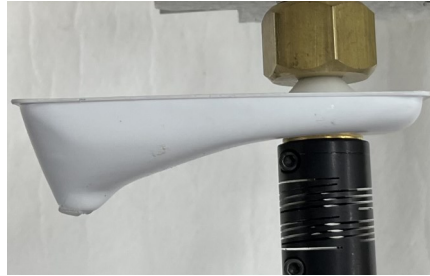

Figure 15
17. Reinstall Maintenance Alert Inner Assembly (drip tray) in order; apron closest to packing nut, followed by tray and finally brass washer as seen in Figure 15. Finger tighten the two nuts holding the drip tray in place.